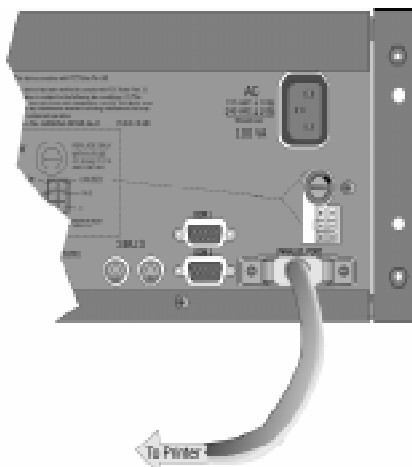

Figure 3-8 Parallel Printer Cable Connection to 9800
1. Connect the standard parallel printer cable to the parallel printer port on the back of the 9800 receiver. (See Figure 3-8.)